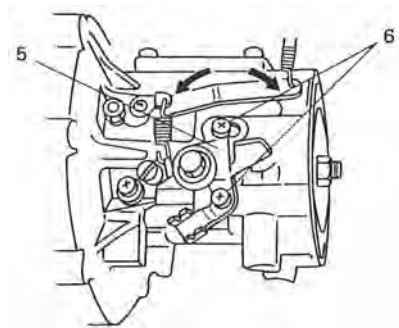

Fig. 23C
- b. To adjust governor, loosen screws (6) which holds control lever assembly (5) to crankcase and move the assembly left or right to obtain the maximum speed of 6500 rpm (Moving control lever assembly to left gives higher rpm and moving to right, lower rpm)(Fig.23C)